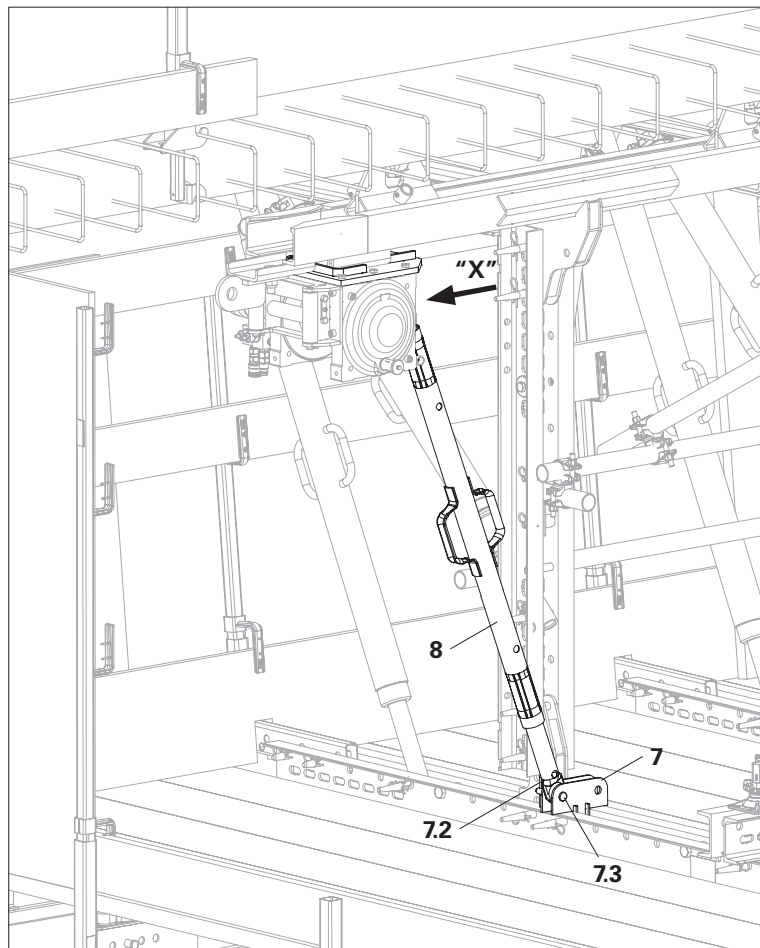

Fig. 06
2. Attach Push-Pull Prop RS 210 (**8**) to the Spindle Cross-Connector SRU with bolt \varnothing 16 x 65/86 (**7.3**) and cotter pin 4/1 (**7.2**) (Fig. 06)